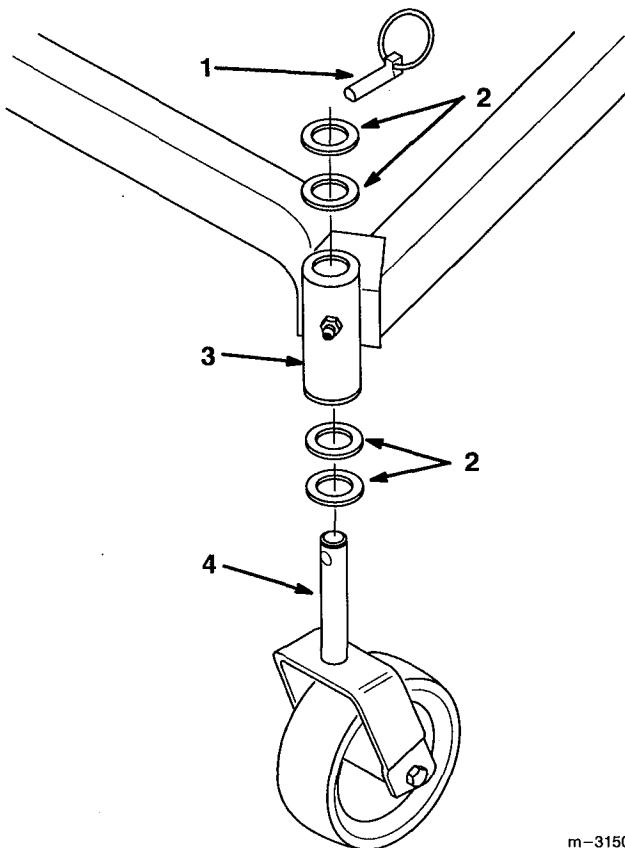

Figure 1
1. Place a thrust washer onto the castor wheel fork (Fig. 1).
2. Insert the castor wheel fork into the carrier frame mounting tube (Fig. 1).
3. Install two (2) thrust washers onto the castor wheel fork, then secure with lynch pin (Fig. 1).